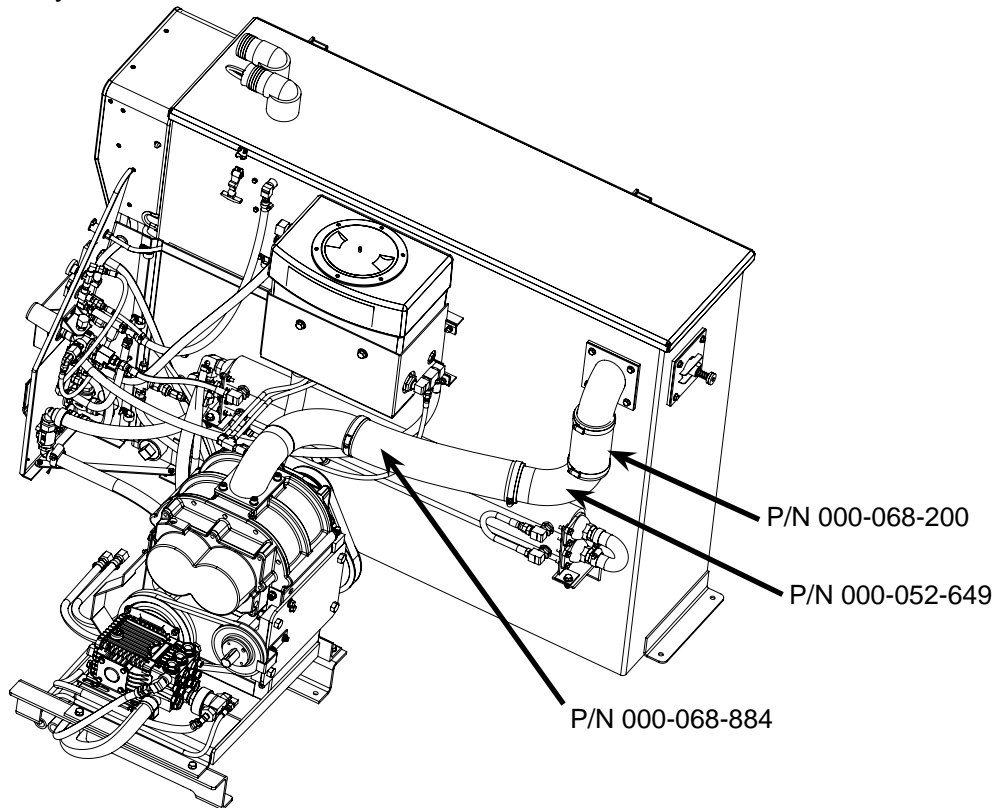

Figure 23. Install Hoses and Elbow Between Recovery Tank and Blower Inlet
1. Install the recovery tank using two pieces of hose and the elbow (P/N 000-052-649), shown in Figure 23, between the blower inlet and the elbow on the backside of the recovery tank.